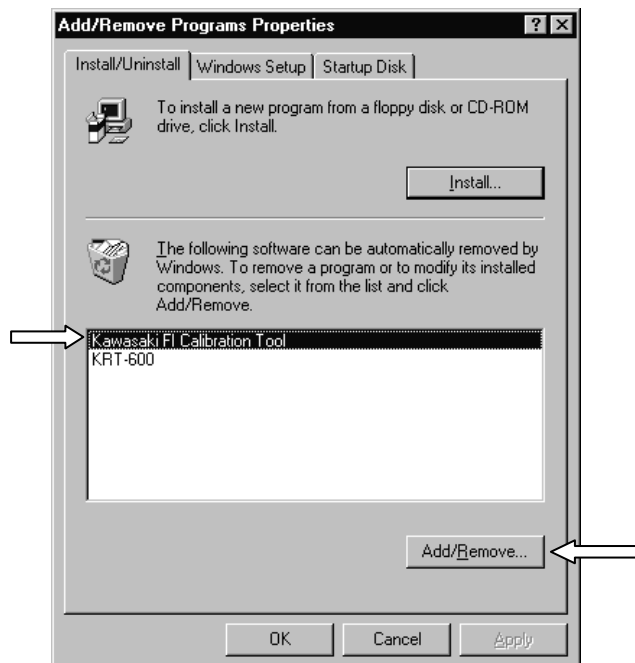

Fig. 20 Add/Remove Programs Properties Screen
- (2) Add/Remove Programs Properties screen shown in Fig.20 appears.